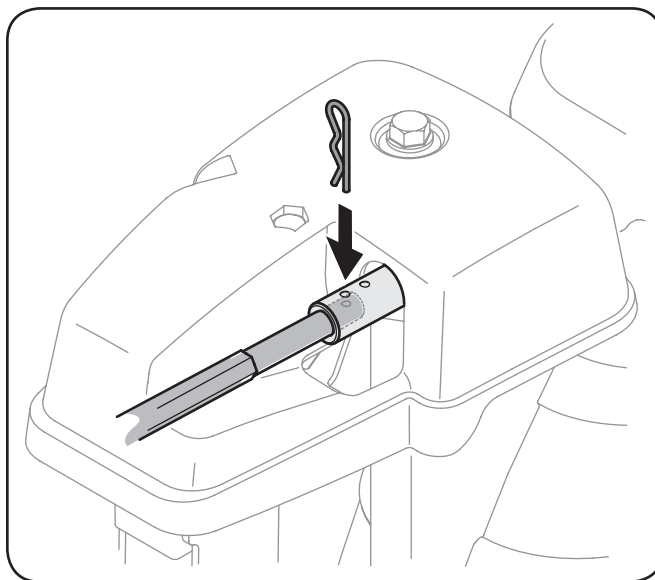

Figure 6-7
2. Pull out the chute control rod until the hole in it lines up with the second hole in the chute rotation assembly. See Figure 6-7.